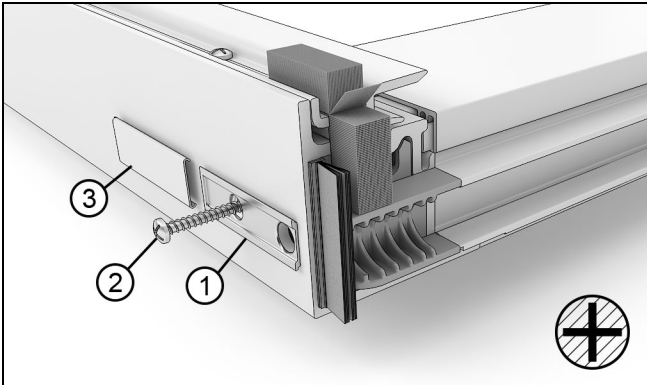

Figure 80 Non-Primary panels
2. On pocket and secondary panels, fasten the bottom stile cover retainer to the bottom of the stile with a #8x 1 3/4" (44) Phillips head screw. Slide the cover over the bracket. See Figure 80.